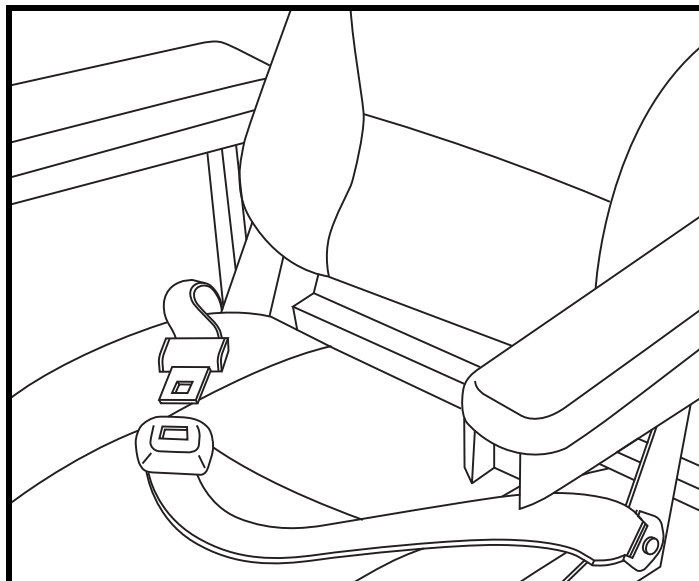

Figure 16. Positioning Belt Adjustment
Your power chair may be equipped with a positioning belt that can be adjusted for operator comfort. See figure 16. The positioning belt is designed to support the operator so that he/she does not slide down or forward in the seat. The positioning belt is not designed for use as a restraining device.
1. Once seated, insert the metal tab on one side of the belt into the plastic housing on the opposite side until you hear a click. See figure 16.